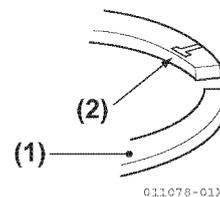

**Figure 5-91**
- Push the piston ring into a cylinder and measure the piston ring gap with a feeler gauge. Push the ring to about 30mm (1.2 in.) from the bottom of the cylinder skirt (**Figure 5-91**).